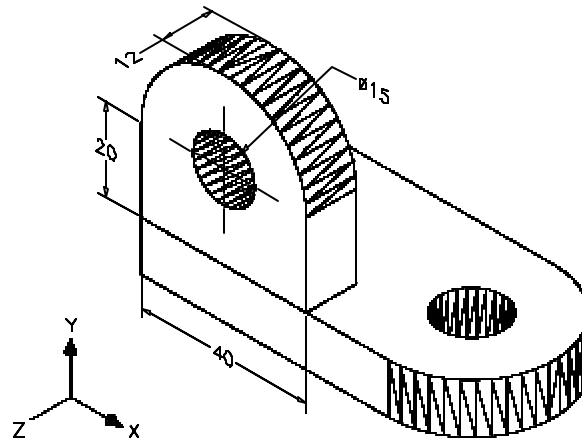

Figure 24-65 After creating the next object and moving it
5. Create the next object and then move it using the endpoint to align with the base of the model as shown in Figure 24-65.